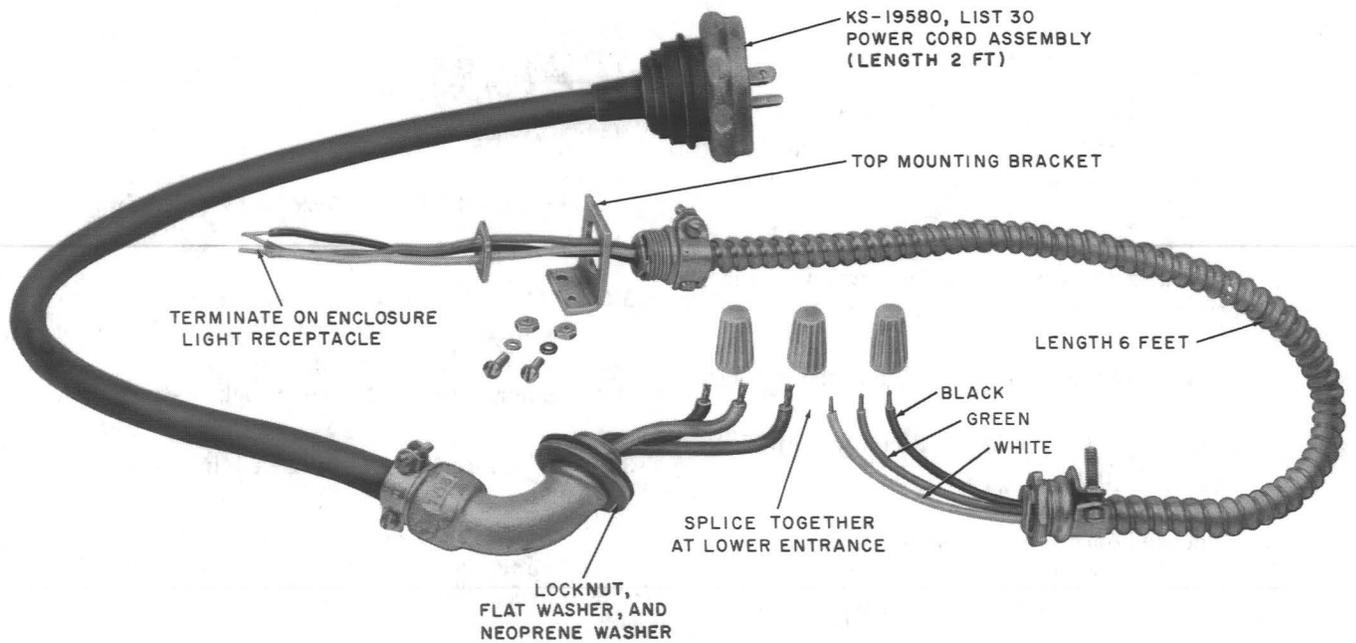

Fig. 10—KS-19580, List 31 Power Cord Group
2.25 The KS-19580, List 31 power cord group (Fig. 10) is available for ground level power.